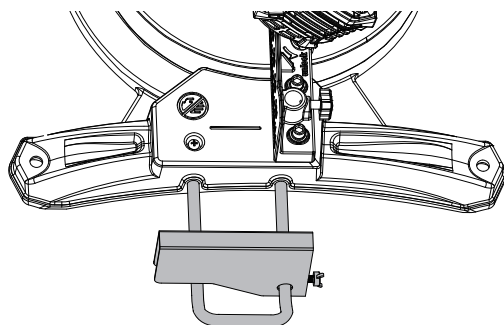

Figure 8
- 7) Position the brace upright as shown in Fig. 8.